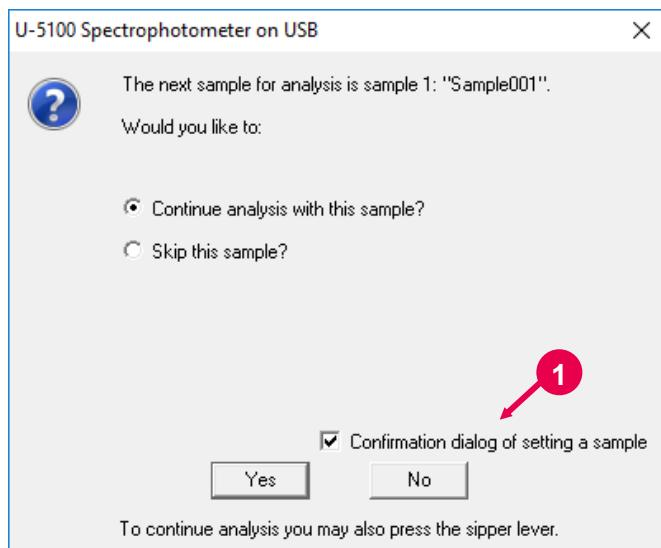

Fig. 2-27
- (1) Click the  (Edit Sample Table) button, and check that the relevant sample definitions have been made.
- (2) Set a baseline sample (blank) in the sample compartment, and click the  (Record Baseline) button.
- (3) After completion of user baseline measurement, click the  (Start Series) button. Then, the window shown in Fig. 2-27 will appear. Set the sample concerned, and click the **Yes** button.